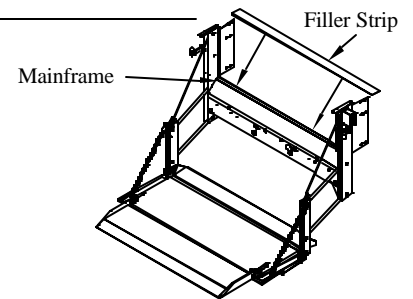

Figure 6 : Filler strip installation.
Step 1: **Weld** the supplied filler strip (12ga.x2"x50-1/4") to the top edge of the liftgate mainframe. This will fill the gap between the rear of the truck and the liftgate mainframe (**Figure 6**).